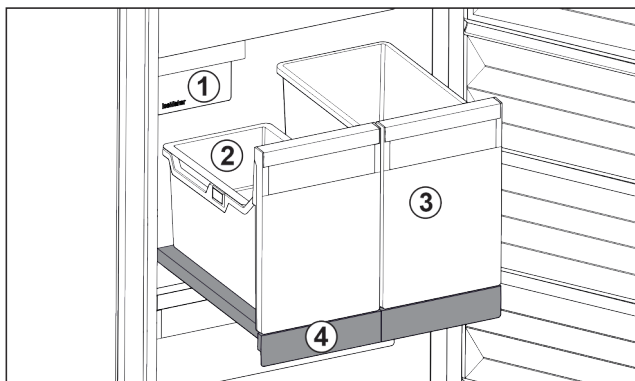

Fig. 138 Pull-out board with IceTower
There are two high (IceTower) containers on the pull-out board. Ice cubes from the IceMaker are collected and stored in the Fig. 138 (2) container. The container Fig. 138 (3) is suitable for storing tall foodstuffs or beverages such as pizzas or alcoholic drinks.